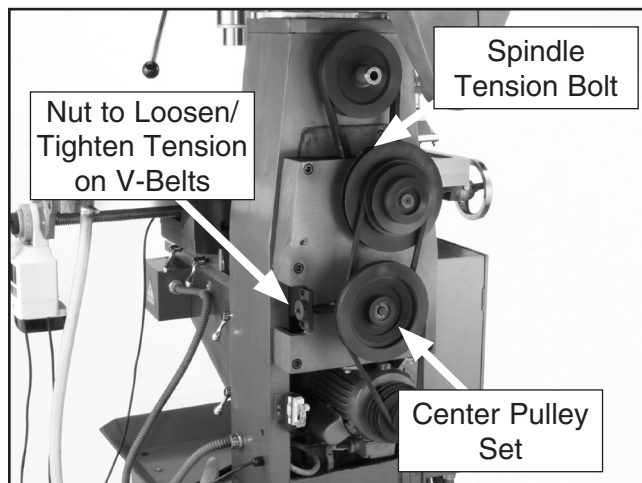

Figure 60. Horizontal spindle access area.
2. Loosen the bolt that holds the center pulley set (See **Figure 60**) in place. The bolt can be accessed through the opening next to the tension nut.
2. Loosen the spindle tension bolt. Do not loosen the nut (see **Figure 60**).